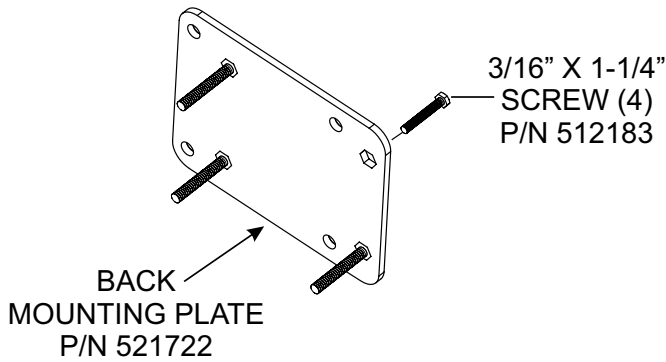

Figure 5. Pump Back Mounting Plate
1. Insert four 3/16" X 1-1/4" screws into the pump back mounting plate P/N 521722 as shown in Figure 5.